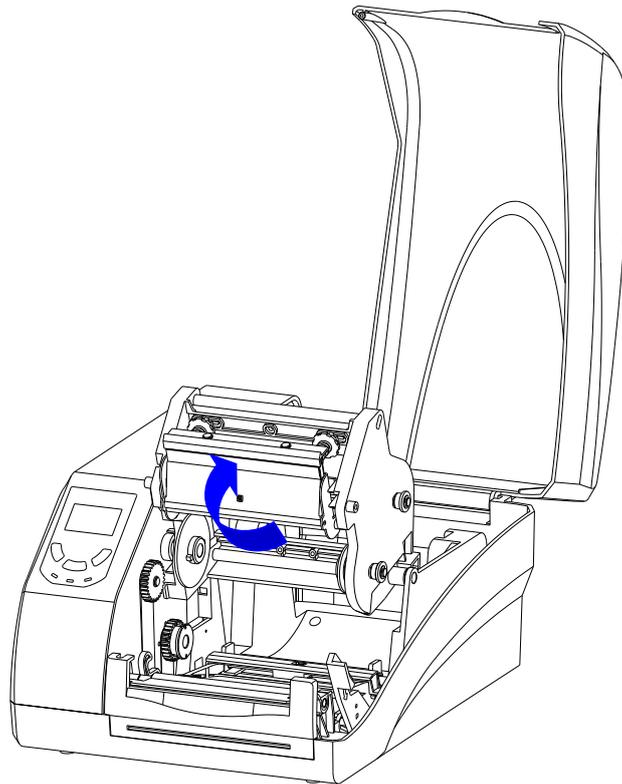

Figure 2-5 Lift the Printhead Module
2. Lift the Printhead Module to expose the Ribbon Supply compartment, see Figure 2-5.